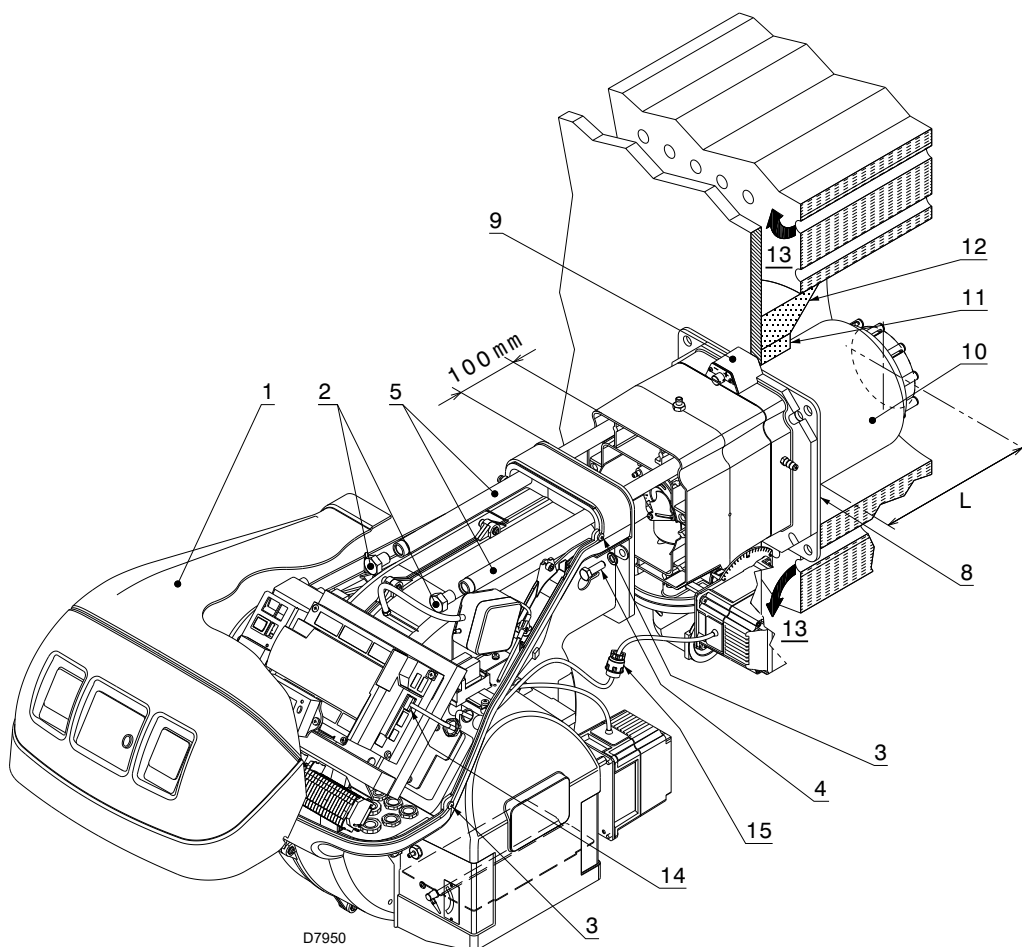

Fig. 16
For boilers with front flue passes 13)(Fig. 16 at page 23), a protection in refractory material 11) must be inserted between the boiler refractory 12) and the blast tube 10).
For boilers with a water-cooled frontal, a refractory cover is not necessary 11)-12)(Fig. 16), unless expressly requested by the boiler manufacturer.
Separate the combustion head from the rest of the burner, as in Fig. 16; proceed as follows:
- reassemble the burner on the guides 3) at about 100 mm from the pipe coupling 4) - burner in the position shown in Fig. 16 at page 23;
- connect the plug of the servomotor 14)(Fig. 16) and tighten the cable grommet 15);